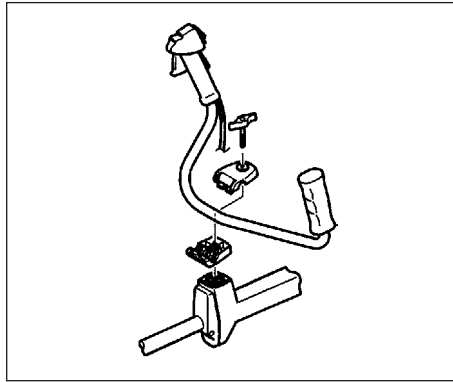

Fig.1-3C
BEMÆRK for CG40EYA (TP) (Fig. 1-3C, 3D)